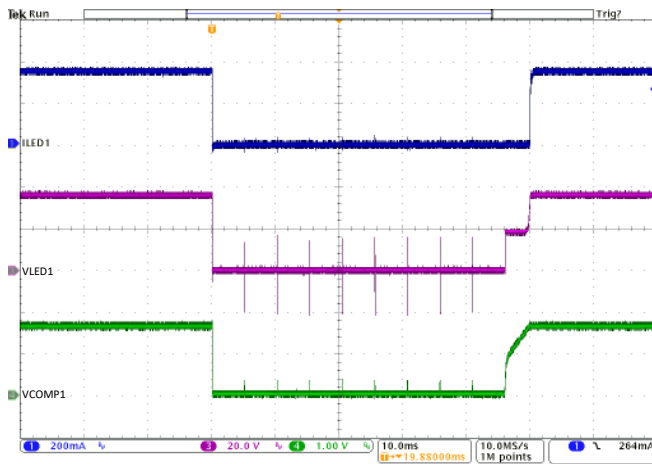
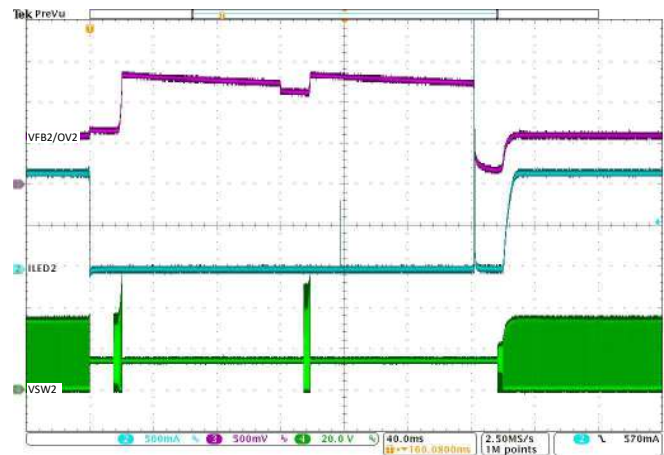

Figure 8. CC Boost LED Short Over-Current Protection
Figure 9. CC Boost-to-Battery LED Open Over-Voltage Protection
TPS92682-Q1 include various fault handling and diagnostic features. Figure 8 and Figure 9 show the LED short protection for CC boost channel and LED open protection for the boost-to-battery channel.
As shown in Figure 8, when a short across the LED load occurs, the overcurrent (OC) protection is triggered (if OC Fault is enabled), the COMP-pin is pulled low, and the associated channel is turned off. The channel remains off for the programmed main fault timer (MFT), when the channel performs a soft-start sequence.
As shown in Figure 9, when open LED load occurs, the load voltage increases above the programmed overvoltage (OV) threshold, and the associated channel turns off. The channel remains off until the load voltage drops below a OV hysteresis value, when the channel performs a soft-start sequence. Set the OV threshold by programming the OV register and the OV detection resistor dividers.